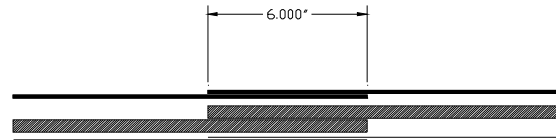

Figure 6
STEP 9. Overlap the layers of the mating fire barrier sections in the manner shown in Figure 6.